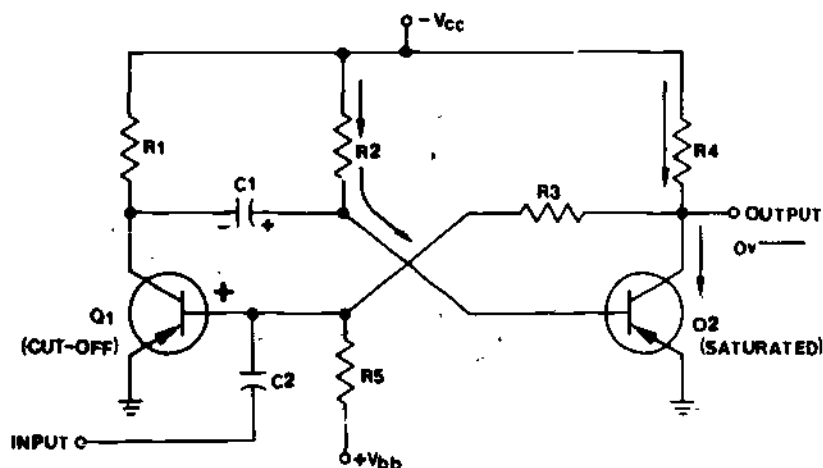

Figure 3
3. The previous two multivibrators (astable and bistable) were symmetrical. The monostable is not symmetrical. Notice that the two transistors in the monostable multivibrator (Figure 3) are biased differently.
In its static state, Q1 in the monostable multivibrator (Figure 3) will be (cut off/saturated) and Q2 will be (cutoff/saturated).